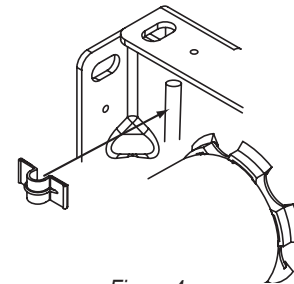

Figure 4
- ⑨ Use the cable strap with self-adhesive attachment pads to secure the motor cable to the endcap (see Fig. 4). This will prevent possible damage to the cable by the roller during shade operation.